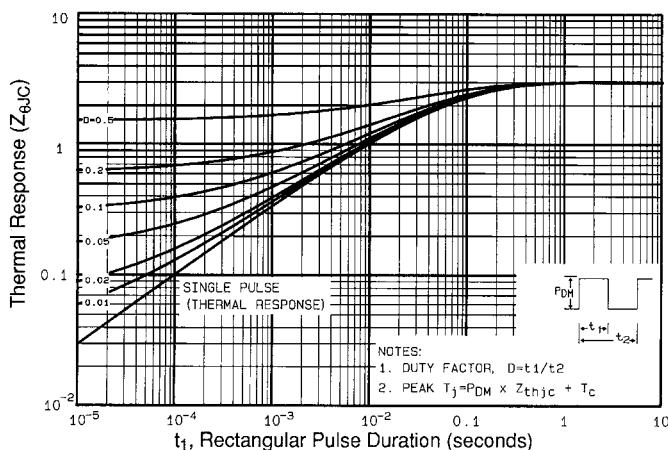

Fig 11. Maximum Effective Transient Thermal Impedance, Junction-to-Case
① Repetitive rating; pulse width limited by max. junction temperature (See Figure 11)
② $V_{DD}=-50\text{V}$, starting $T_J=25^\circ\text{C}$, $L=35\text{mH}$